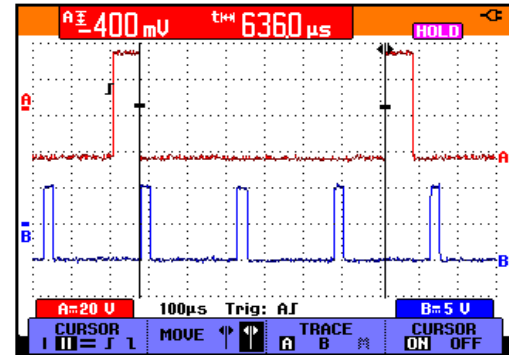

Figure 24. Time Measurement with Cursors
- The screen shows the time difference between the cursors and the voltage difference between the two markers. (See Figure 24.)